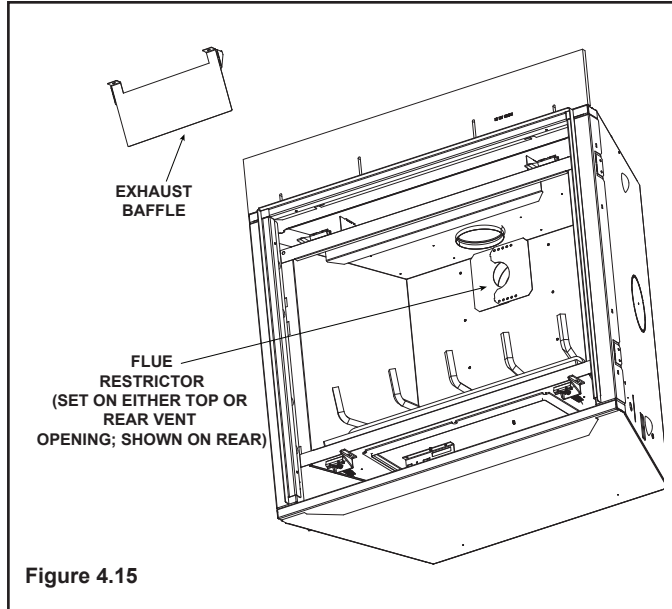

Figure 4.15
1. Remove exhaust baffle using a 1/4 inch nut driver by removing the two screws securing it in place. See Figure 4.15.
3. Center the two flue restrictor pieces on the vent at the setting selected in step 2 and secure in place by using two self-tapping screws. See Figure 4.15.